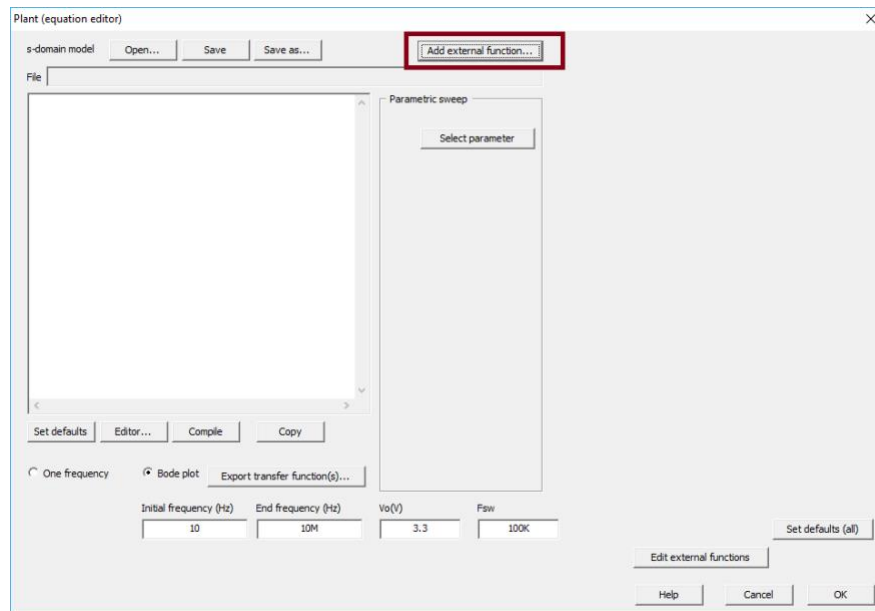

Figure 33: Adding external transfer functions in SmartCtrl
- The window of Figure 33 will appear. Use the Add external function button to add the Psim frequency response (file T2_Psim_Double_control_loop_design.txt) and the exported SmartCtrl.